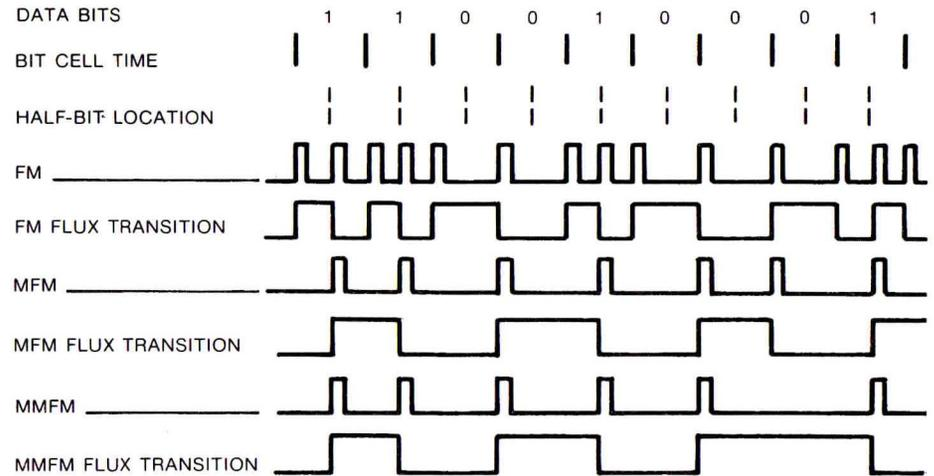

FIGURE 5-1. COMPARISON OF FM, MFM, AND MMFM RECORDING
Data may be recorded onto the media by the 550/552 Flexible Disc Drive in one of two modes—single-density mode (FM) or double-density mode (MFM or MMFM). The encoding algorithm performed external to the drive by the controller is defined below with illustrations (Figure 5-1) for both FM and MFM/MMFM.